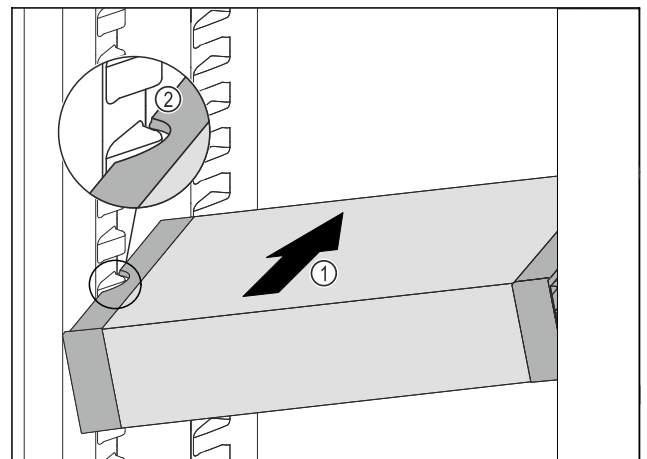

Fig. 104
- Insert the VarioSafe into the fridge section at an angle Fig. 104 (1) until the recesses in the side Fig. 104 (2) of the VarioSafe are at the level of the support rib in the fridge section.